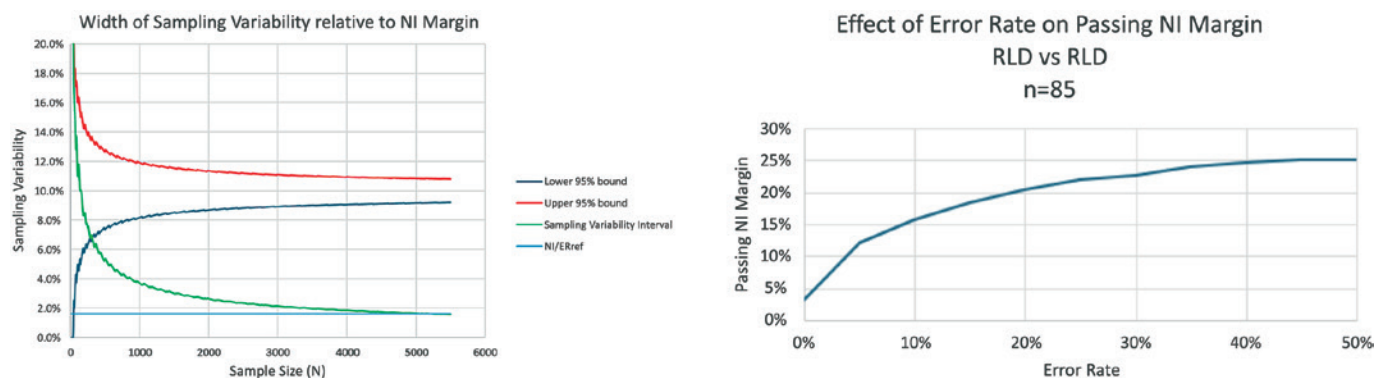

Figure 1: Contribution of sample size to sampling variability.
By applying rigid clinical frameworks to human factors validation, there is a risk of complicating approval processes for safe, effective products and delaying patient access to affordable treatments. For example, a human factors study requires 85 users to pass a non-inferiority (NI) margin of 16% at 95% power – a large sample size. Sampling variability often dominates the NI margin, leading to a high false negative rate. Adapting continuous data methods to small sample sizes requires a larger NI margin or more participants, as shown in Figure 1, which illustrates the relationship of sampling variability to the NI margin, as well as the ratio of the NI margin to the reference error rate (NI/ERref).